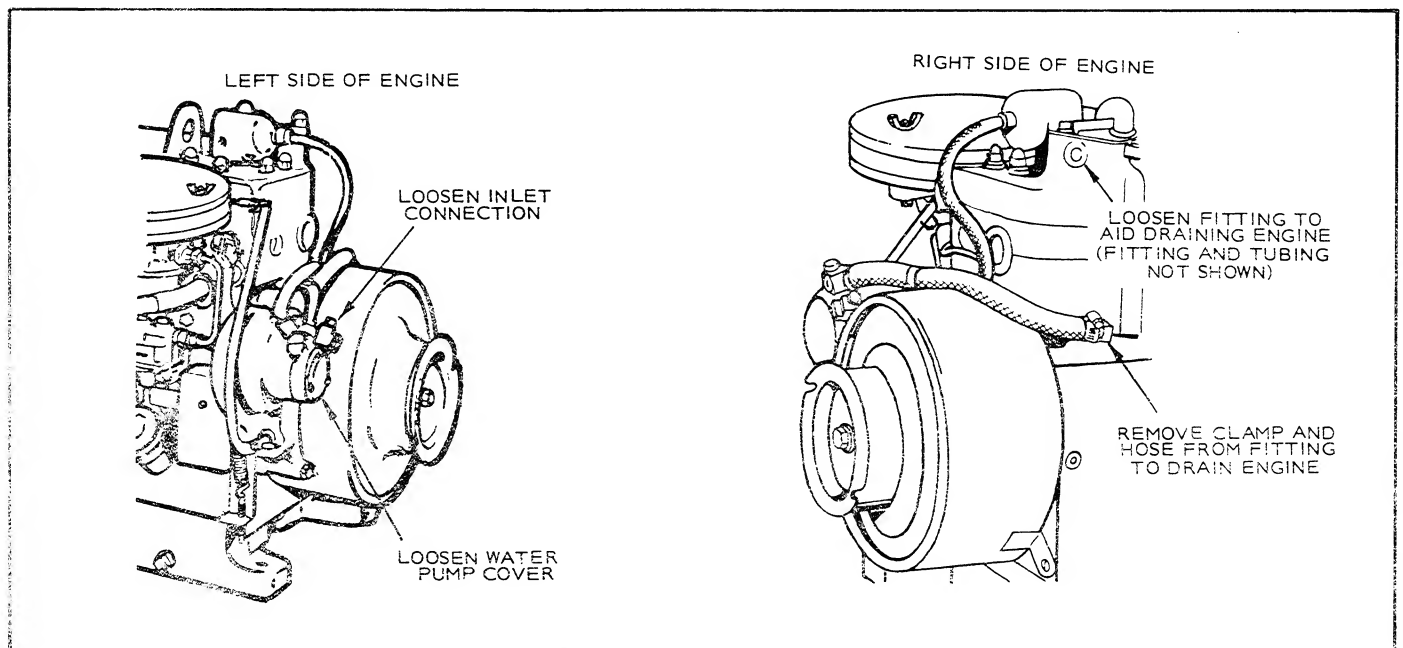

FIGURE 18. DRAINING WATER PUMP AND ENGINE COOLANT
1. To drain the water pump, loosen the cover on the water pump so the water runs out. See Figure 18.